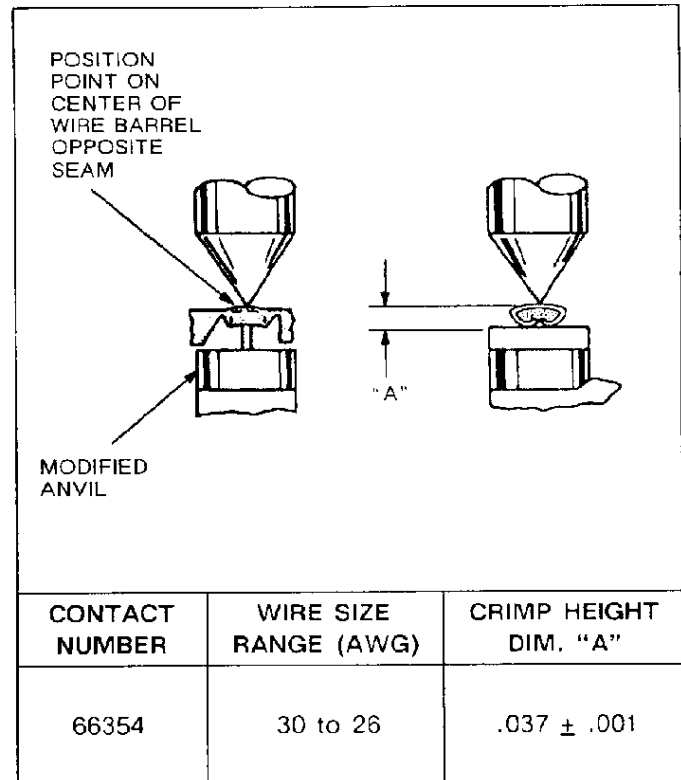

Fig. II-2
This inspection requires the use of a micrometer with a modified anvil as shown in Figure II-2. We recommend the modified micrometer (Crimp Height Comparator RS-1019-5L), which can be purchased from:
3. Using a crimp height comparator, measure wire barrel crimp height as shown in Figure II-2. If the crimp height conforms to that shown in the chart, the tool is considered dimensionally correct. If not, return the tool to AMP for evaluation and repair (see Paragraph II-2, REPAIR).